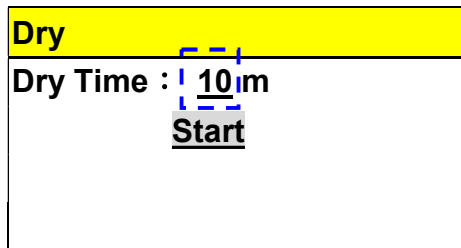

Figure 74
- D. Press  button to enter the dry time mode, and press  or  button to change the dry time, and then press  button to confirm Dry time, as shown in Figure 74.